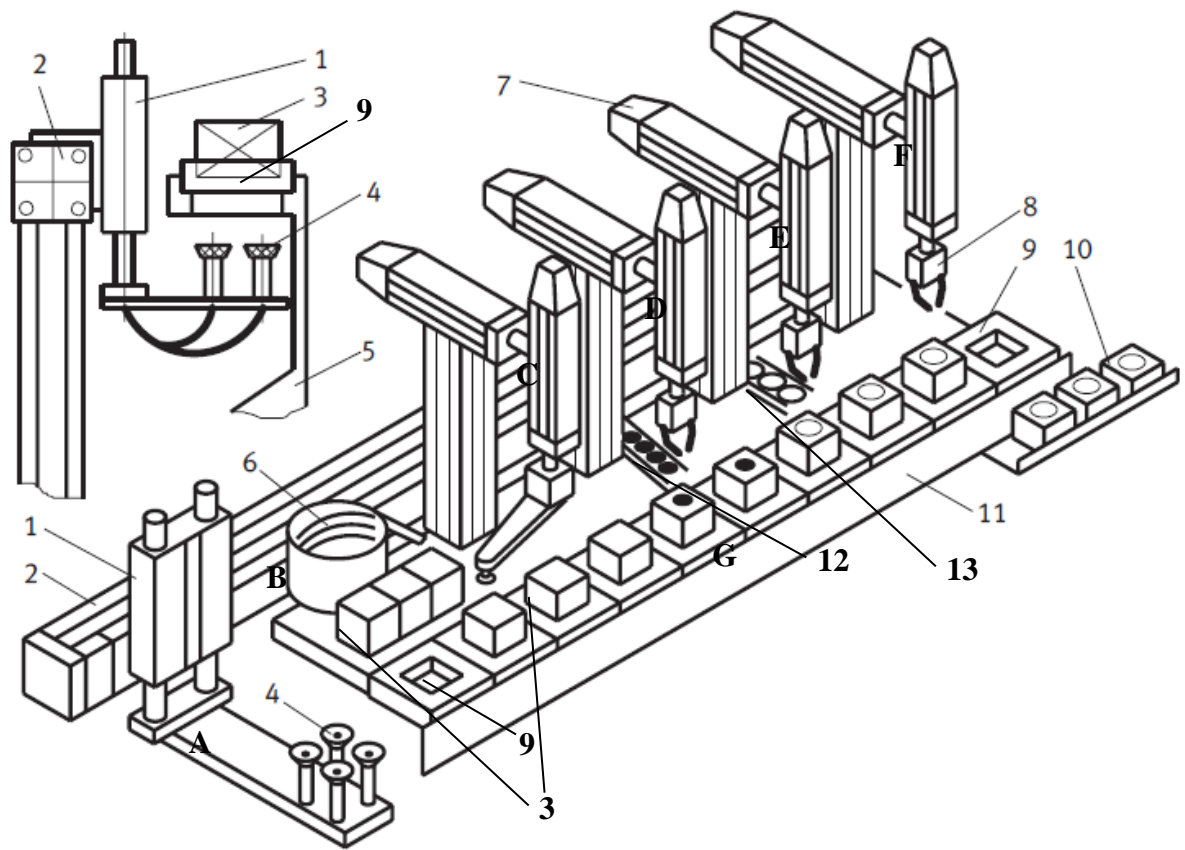

Figure 3: Assembly transfer line
7. In Figure 3, a production assembly line which features an assembly installation of a product with transfer of the workpiece carriers. This assembly line consists of seven modules: A, B, C, D, E, and F as described in Table 1. As a finished module (10) is removed at the end of the assembly line by module A, the workpiece carrier (9) is gripped from below by suction cups (4) in the module (A), lowered and returned below the transfer line (G). The workpiece carrier (9) is then lifted and placed back at the beginning of the line by the lifting and transferring module (A). As all the workpiece carriers are in immediate juxtaposition without gaps, the effect of this is to index the entire chain of carriers forward by one unit. The robot module (C) is used to handle the new parts (3) to the work piece carrier (9). The small components are fed and arranged via vibratory feeders to the stations D and E to be assembled together. The whole assembly process can be produced complicated parts from standard components. The module F is used to remove the assembled product (10) out the assembly line.